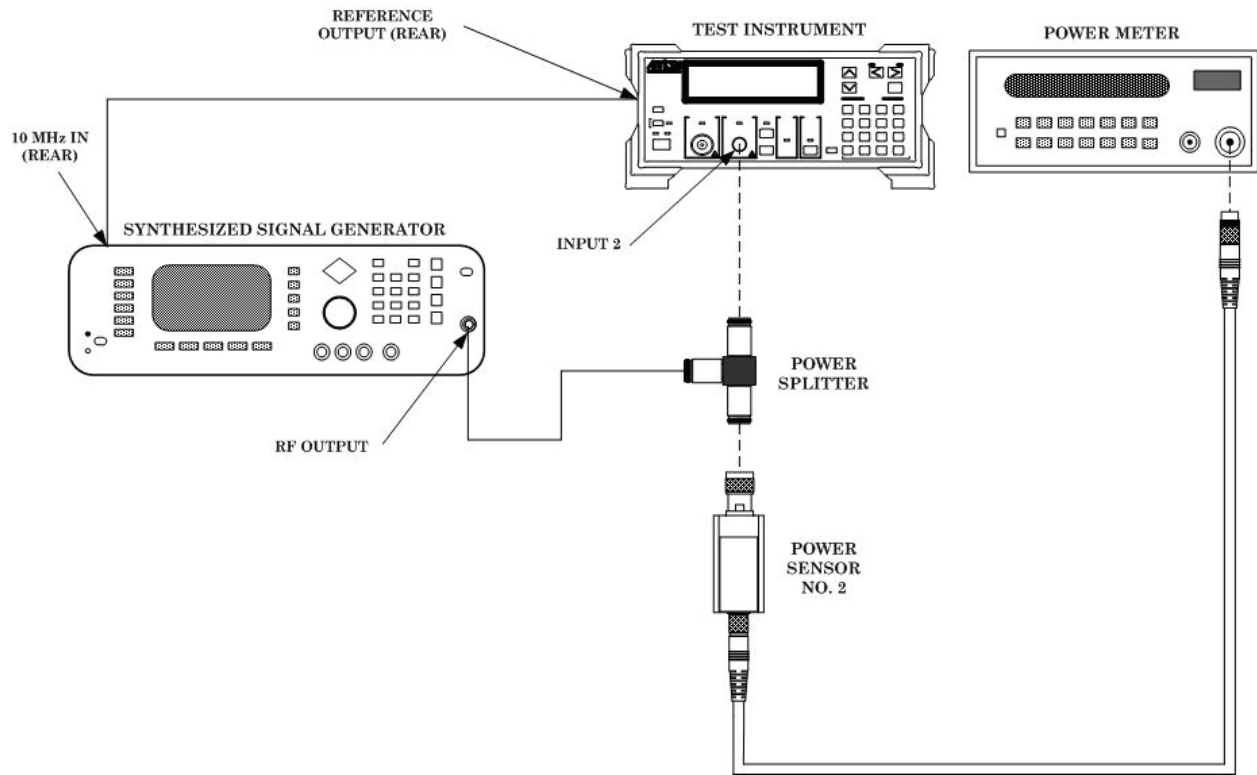

Figure 3. Input 1 sensitivity (600 MHz to 18 GHz).
(1) Connect equipment as shown in figure 3 below.
(2) Press TI keys as listed in (a) through (f) below: